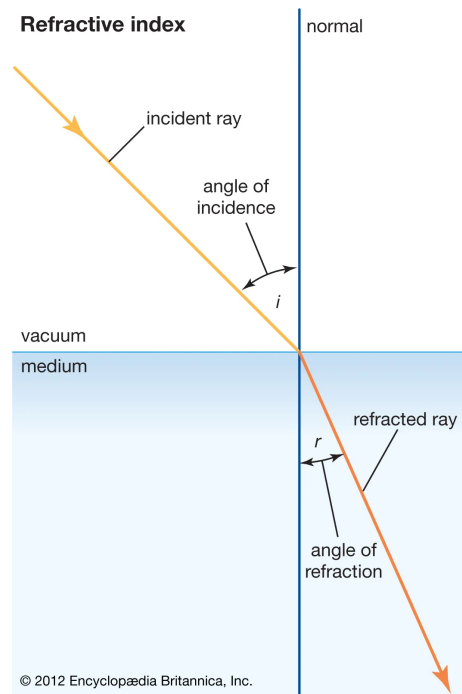

Figure 3: An illustration of refractive index[16]
The refractive index is defined as the the sine of the angle of incidence to the sine of the angle of refraction.[16] Equation 1 shows how the refractive index is calculated as either the ratio of the sine of the angles or as the ratio of the speed of light in a vacuum ( $c$ ) over the speed of light in the medium ( $v$ ).[17] The angles,  $i$  and  $r$  are shown in figure 3.
- [11] R. Evers. "4 schematic diagram of the main components of a gas chromatography system (philadelphia college of pharmacy, 2012)." (), [Online]. Available: [https://www.researchgate.net/figure/Schematic-diagram-of-the-main-components-of-a-gas-chromatography-system-Philadelphia\\_fig3\\_273134301](https://www.researchgate.net/figure/Schematic-diagram-of-the-main-components-of-a-gas-chromatography-system-Philadelphia_fig3_273134301) (visited on 12/30/2023).